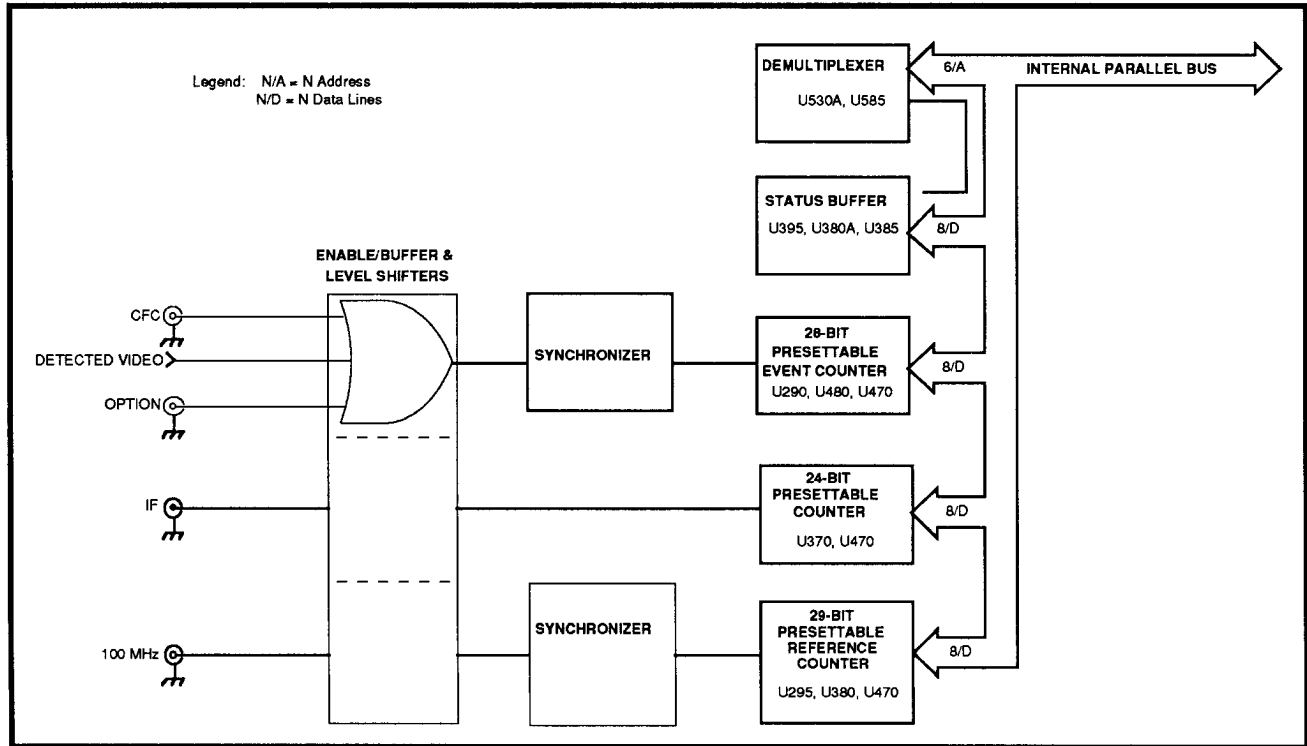

Figure 7-21. Microprocessor counter system.
- Counter System (Figure 7-21)